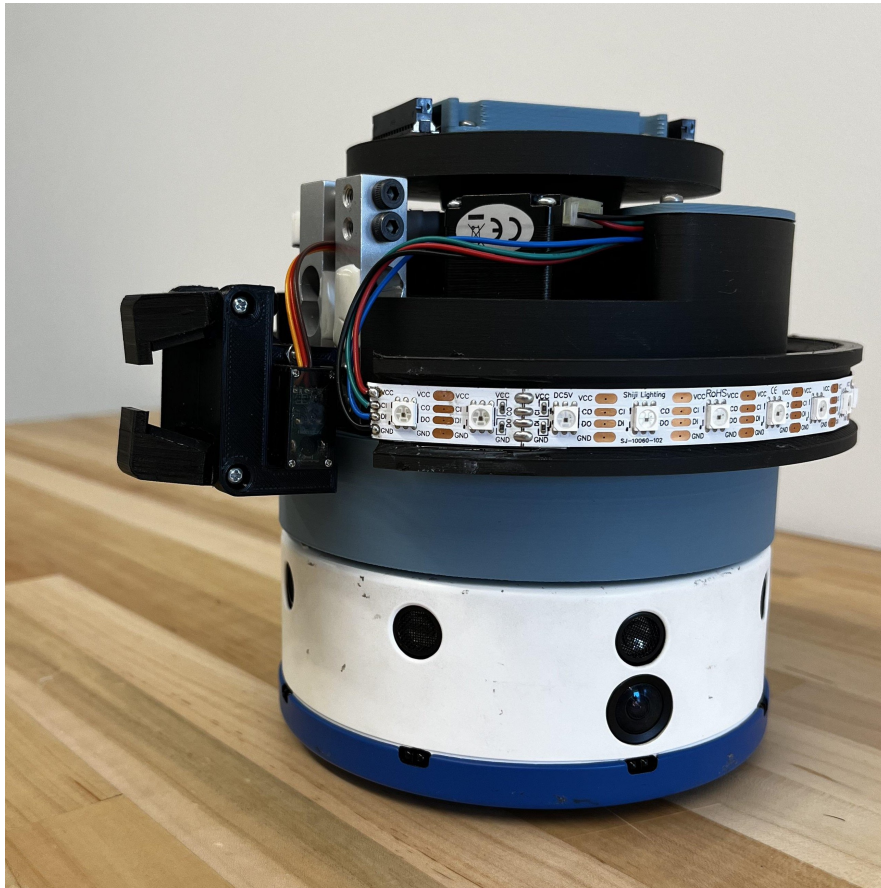

Figure 3: Full assembly of the custom gripper on the Khepera IV
- Carefully place the gripper assembly on the Khepera IV so that the connectors are meshed together. A complete image of the assembly can be found in Figure 3.